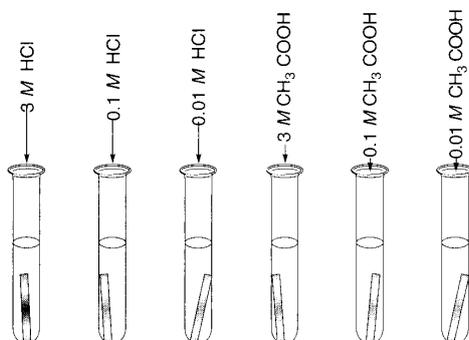

Figure 6.7 A setup for testing the effect of different acids and acid strengths on their reactivity with a meta
2. Effect of Acid Concentration on Reaction Rate. Set up six small clean test tubes containing about 1/2 mL of the acid solutions shown in Figure 6.7. Add a small (~1 cm) polished strip of magnesium to each solution and observe. Explain your observations. Account for any similarities and differences between HCl and CH_3COOH . What effect do differences in the acids *and* the concentrations of the acids have on the reaction rate?